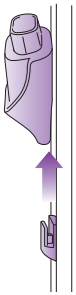
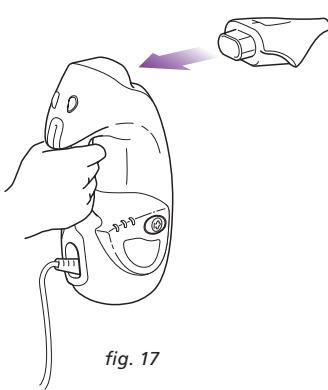

fig. 16
fig. 17
- 2 Remove the Direct Stream Nozzle from the storage clip on the mop handle and attach it by pressing the nozzle onto the Handheld Steamer until it clicks into place. (fig. 16, fig. 17)